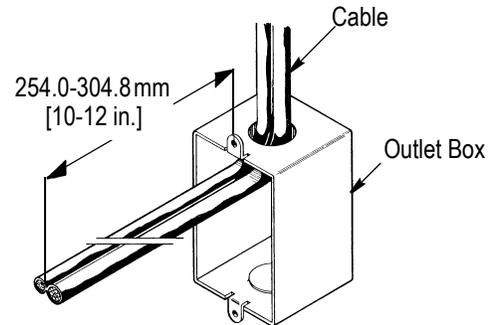

Figure 2
1. Dress the cable as shown in Figure 2.